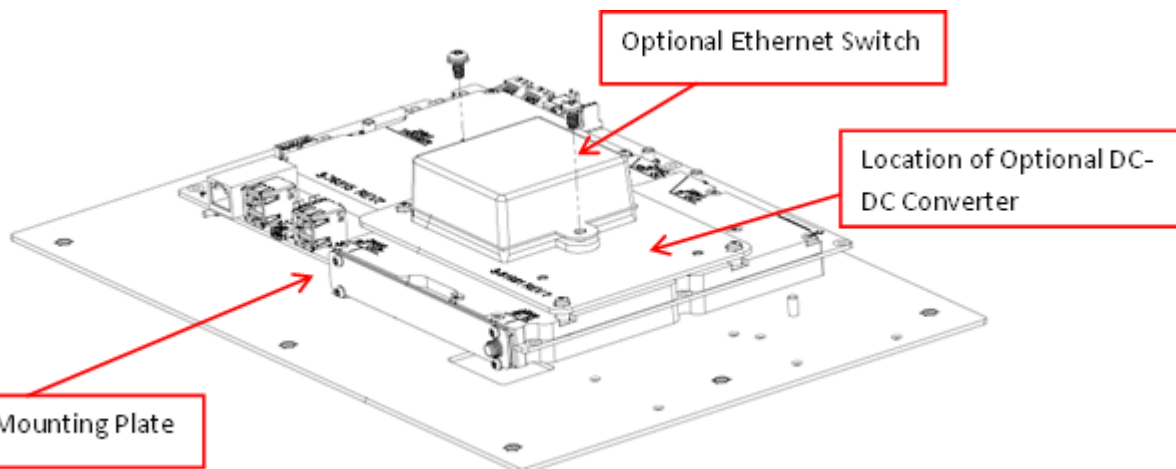

Figure 3-17. SPA Assembly with Mounting Plate and Optional Ethernet Switch
5. During the SPA replacement, if an Ethernet switch or DC to DC converter is present, they must be transferred from the original SPA to the new SPA. Each assembly is removed by unscrewing two mounting screws. The mounting plate for the SPA to the bottom panel and mounting plate for the Ethernet Switch and/or DC to DC converter stays attached to the SPA. Figure 3-17 shows a SPA assembly with an Ethernet switch and no DC to DC converter.